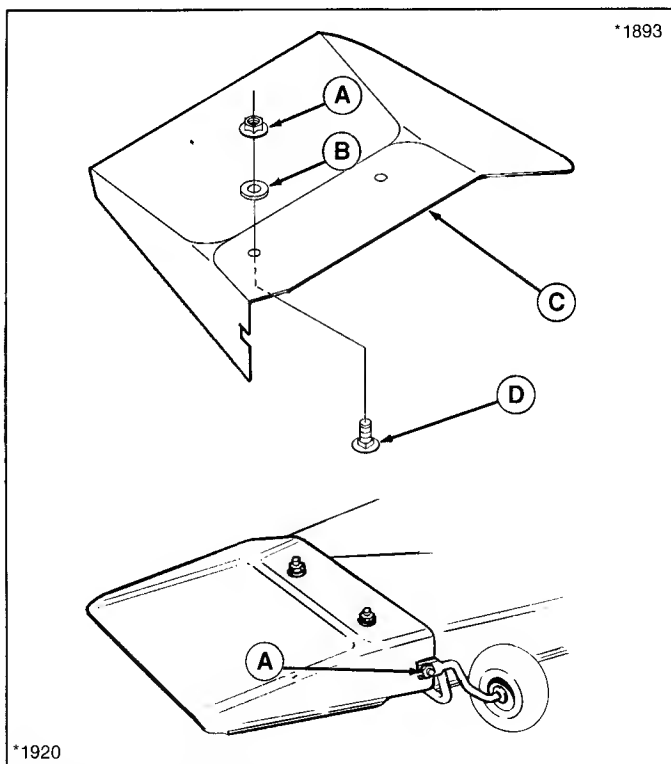

Figure 29. Deflector Installation
10. Make sure deflector is properly installed as shown in figure 29.
4. Make sure belt covers and deflectors are properly secured before operating mower. Refer to figure 29.